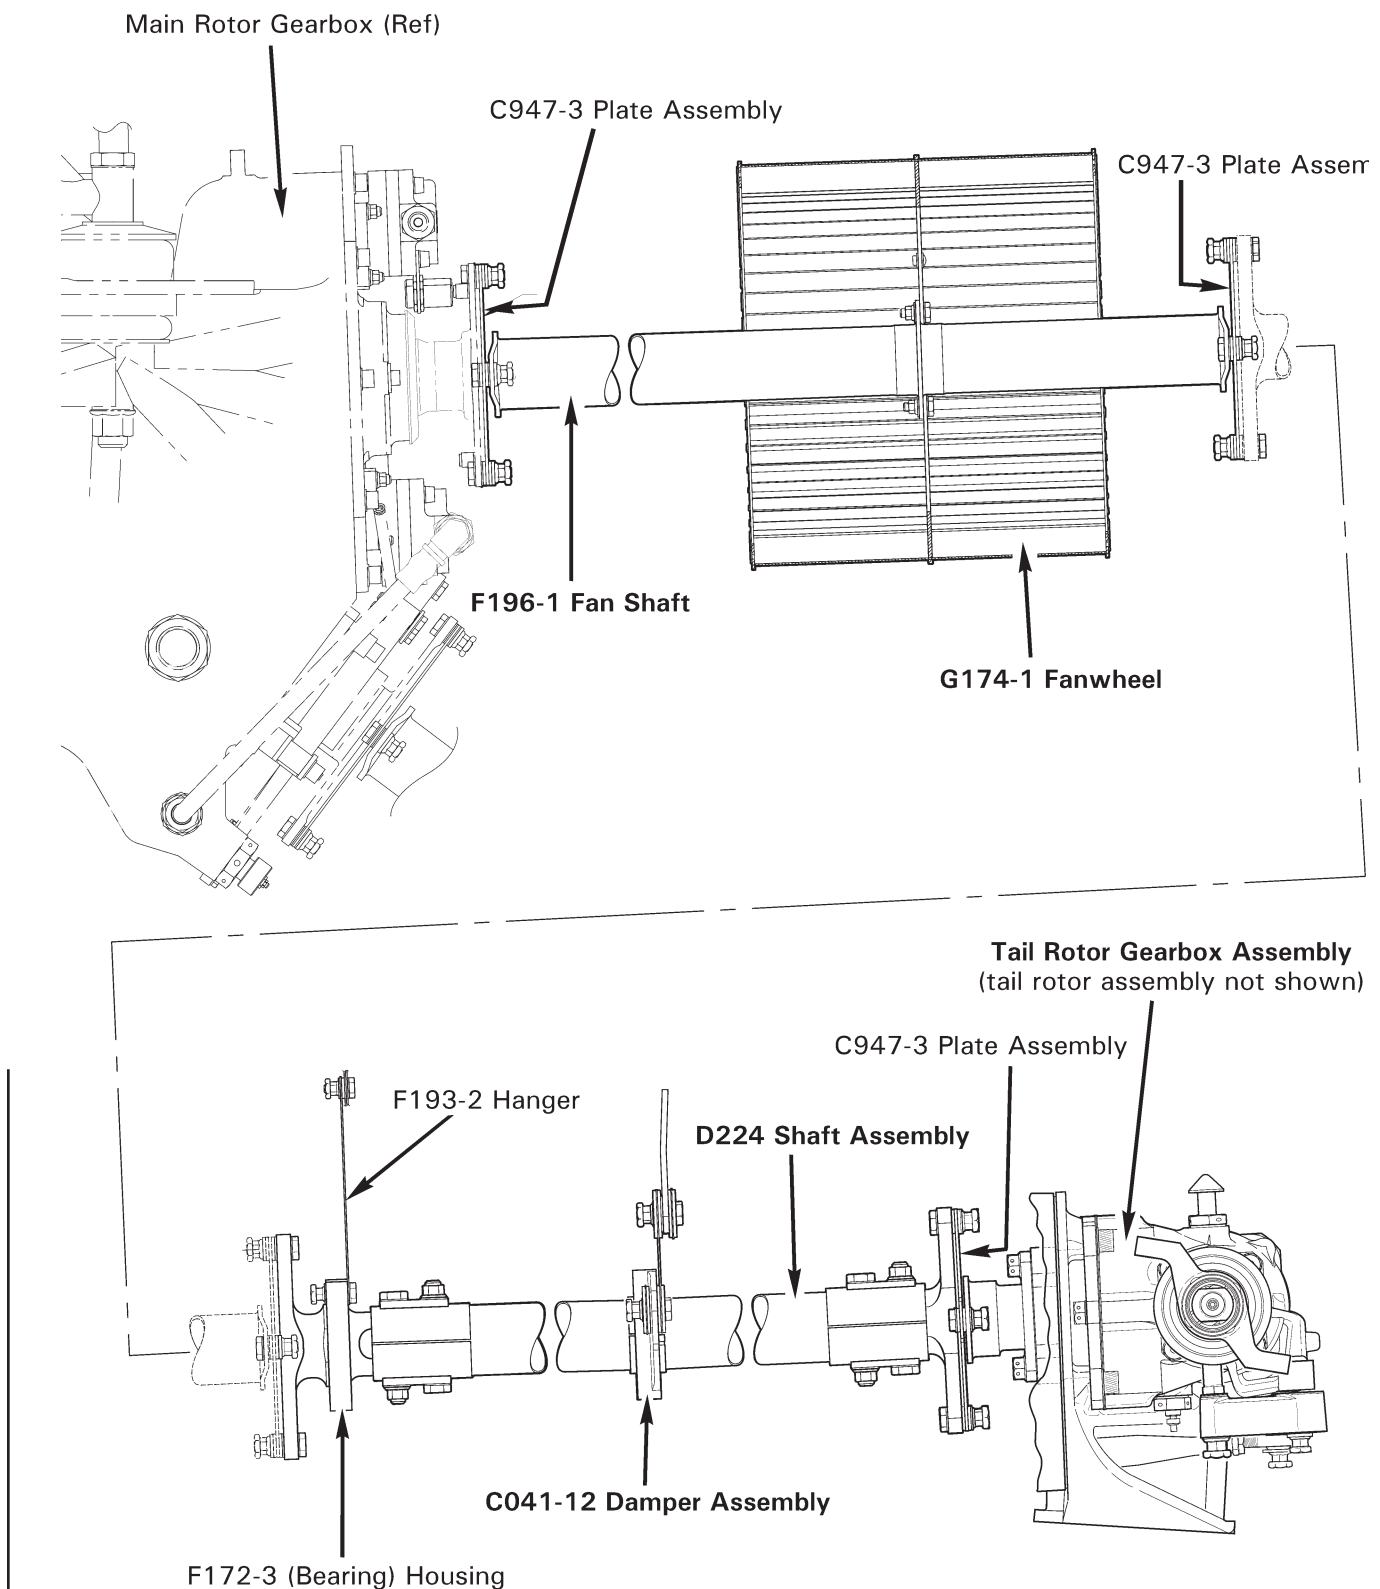

FIGURE 65-1 TAIL ROTOR DRIVELINE
Refer to R66 Illustrated Parts Catalog (IPC) Figure 65-1.
2. Refer to Figure 65-1. Remove hardware securing F252-1 strut assembly to upper frame assembly and remove strut.
1. Refer to Figure 65-1. Route F196-1 fan shaft aft through fanwheel assembly, rotating yoke as necessary. Install hardware securing fan shaft to G174-1 fanwheel assembly. Standard torque nuts and palnuts per § 20-32, and torque stripe per Figure 5-1.
2. Refer to Figure 65-1. Remove hardware securing F172-3 (bearing) housing to F193-2 hanger.
1. Refer to Figure 65-1. Route D224 drive shaft assembly through inside of tailcone. Support drive shaft as required.
1. Refer to Figure 65-1. If not previously accomplished, remove hardware securing intermediate C947-3 flex plate assembly to F196-1 (tail rotor) fan shaft aft flange and D224 tail rotor drive shaft assembly forward yoke. Remove flex plate, and temporarily support aft portion of fan shaft.